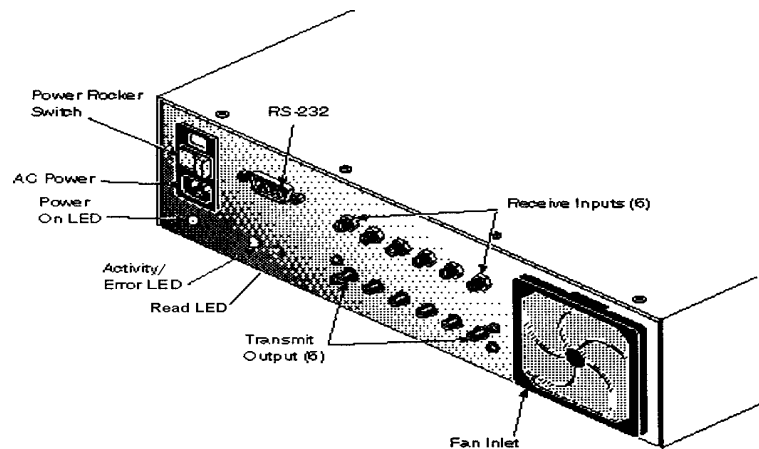

Figure 3. InstaScan Scanner
The InstaScan provides the connectors and LEDs described in the following sections and shown in Figure 3.
The InstaScan's front panel has three LEDs that indicate power, activity, and transmitter on (see Figure 3). Table 1 describes the meanings of the InstaScan LEDs.
The InstaScan's front panel has an On / Off switch located below the Power ON LED (see Figure 3).
1. Attach the male connector on the serial cable to the 9-pin serial connector on the InstaScan front panel (see Figure 3).
1. Verify that the On / Off switch on the InstaScan front panel is in the OFF position (see Figure 3).
2. Connect the power cord the front panel (see Figure 3).